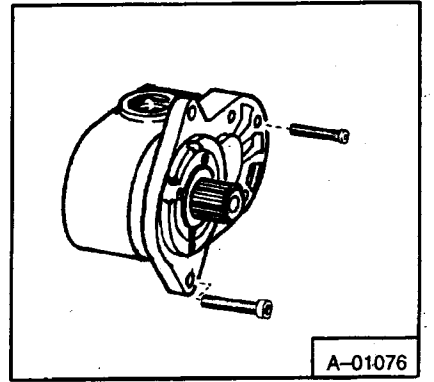

Fig. 4-37 Install Body Bolts
10. Install cover plate over shaft. Install and tighten the cover bolts, then turn pump over and install and tighten body bolts (Fig. 4-37).